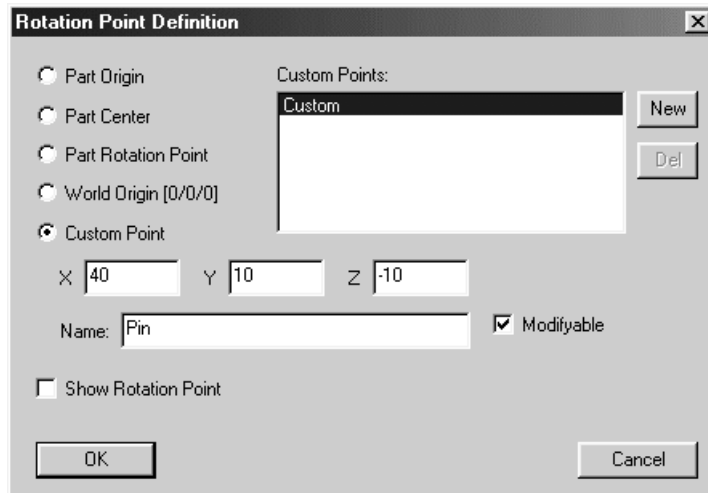

Figure 5-11: Rotation Point dialog.
- Click the toolbar icon , or from the menu, choose **Settings > Rotation Point**. The Rotation Point Definition dialog appears (see Figure 5-11). Here is where you can select what rotation point MLCad uses for the model. Choose **Custom Point** among the buttons on the left. Enter the coordinates of the pin that you noted from the last step. Change the point's name to **Pin**, and click **OK**.